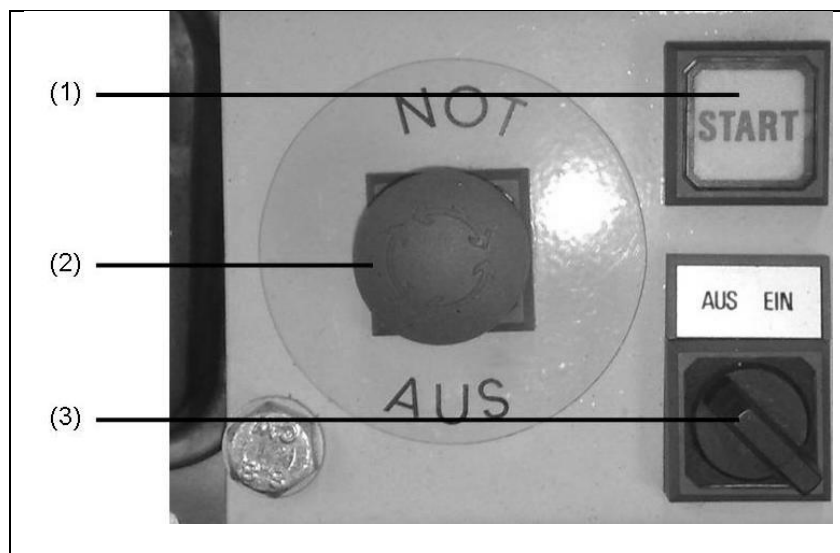

Figure 5-5: Electrical start in combination with remote start
1. The EMERGENCY-OFF button (Figure 5-5-(2)) must not be pressed.
2. Place operating switch (Figure 5-5-(3)) in pos. ON.
3. Press the start knob (Figure 5-5-(1)).
3. Place operating switch (*Figure 5-5-(3)*) in Pos. OFF.